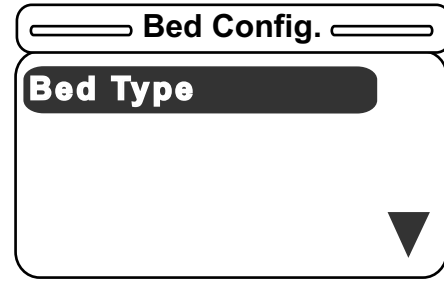

Figure 64 – Bed Config. menu
37. The Bed Configuration menu will then only display the Bed Type menu item (Figure 64) and you can now re-enter all bed information starting with the Bed Type.